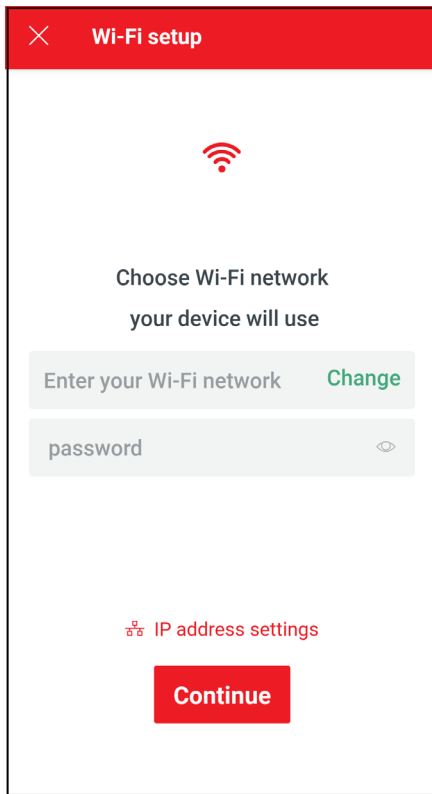

Figure 85. Wi-Fi Setup
- 4. The "Wi-Fi setup" screen will appear. Select or enter the Wi-Fi network you want your unit to be connected to and enter the network password. See **Figure 85**.